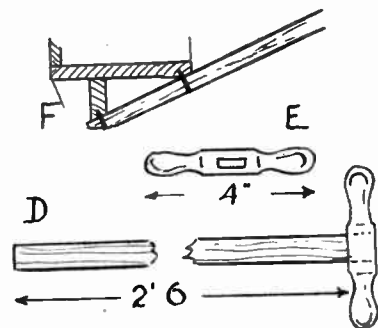

Fig. 3—Details of the handle
For the handle, a length of $\frac{1}{2}$ in. square wood, should be cut, as at (D) in Fig. 3. If a piece of ash or oak can be found for this part all the better, as the handle should be tough. It can be cut to the length given, plus $\frac{1}{2}$ in. for entering the grip. This is detailed at (E), and has a $\frac{1}{2}$ in. by $\frac{1}{2}$ in. mortise cut through its middle, the appropriate end of the handle being reduced to a tenon to fit it.
out of the former, as shown at (C), being $\frac{1}{2}$ in. deep at the back and rising to about $\frac{3}{4}$ in. or a little less, at the front. A smaller notch is also cut under the front edge of the seat, as at (B), this latter notch being about $\frac{1}{2}$ in. deep only, and slightly sloped downwards at its rear. In these notches the handle is securely fitted with screws, with its extreme end underneath bevelled off, as in the detail of its fixing (F) in Fig. 3.